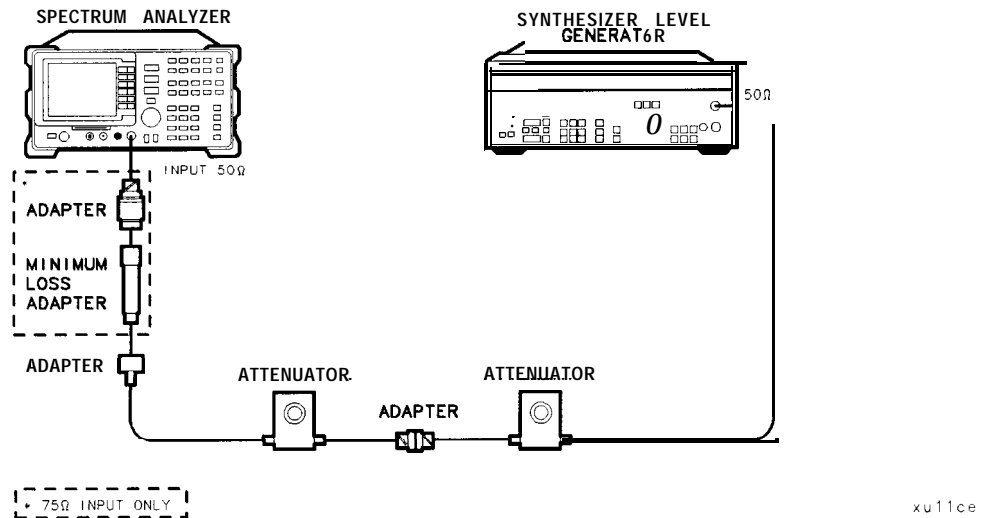

Figure 2-19. Reference Level Accuracy **Test** Setup
2. Connect the equipment as shown in Figure 2-19. Set the 10 dB step attenuator to 10 dB attenuation and the 1 dB step attenuator to 0 dB attenuation.